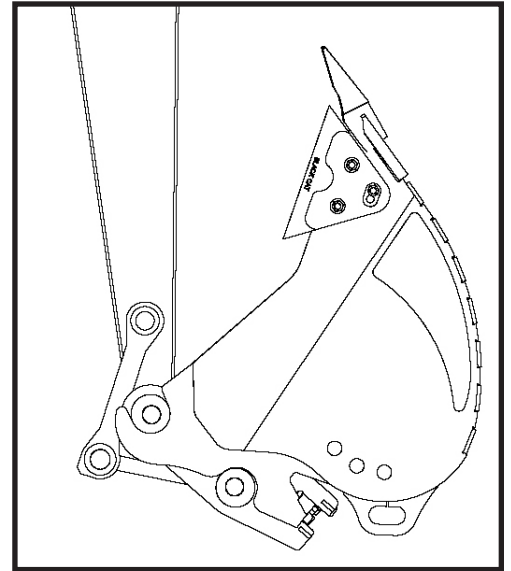

FIGURE 1.3 - BUCKET CURLED
2. Curl coupler and bucket fully inwards so that the bucket curl cylinder goes over relief as shown in figure 1.3.